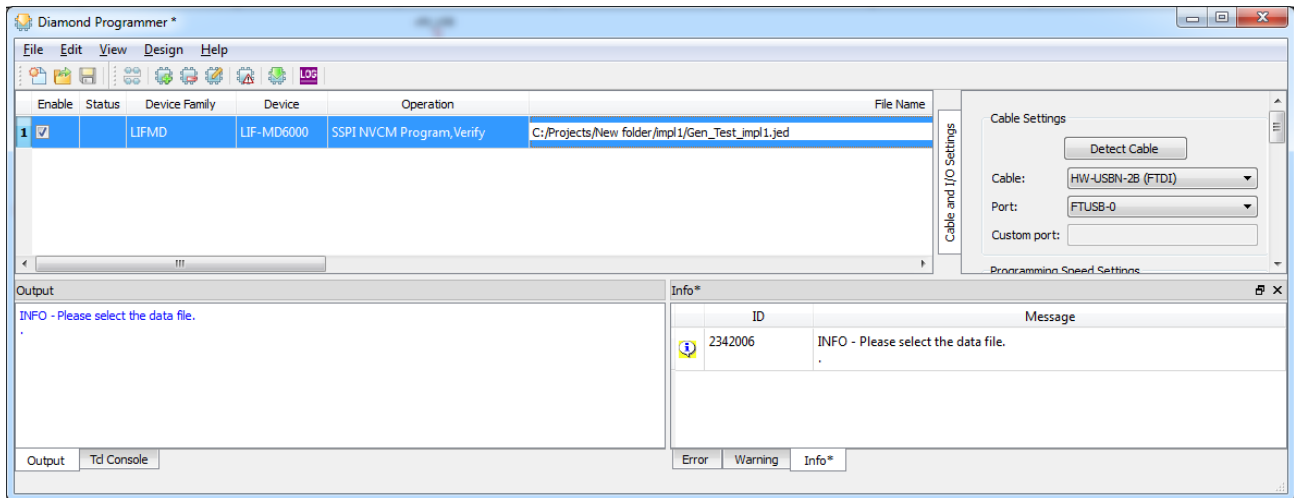

Figure 5.30. CrossLink Family – Select the Programming File
3. Select the programming file that you want to program in the CrossLink device by double clicking the **Browse** button  under **File Name** as shown in Figure 5.30.